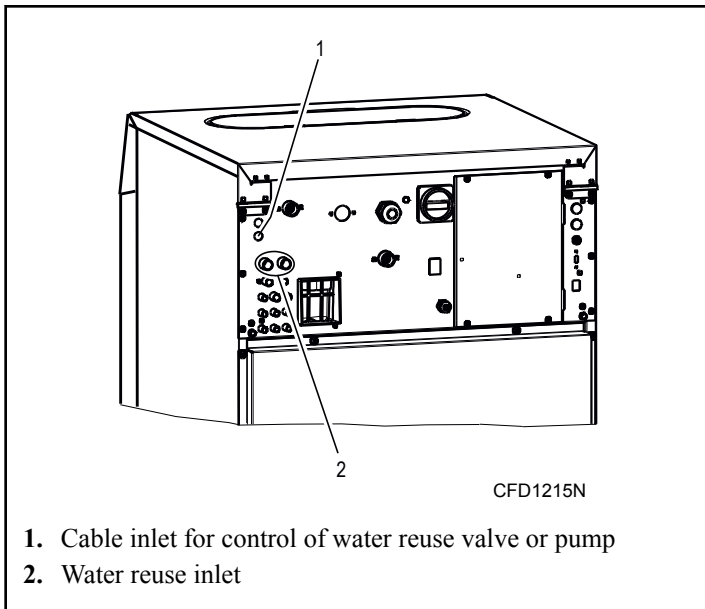

Figure 28
1. Drill out the protective screens of the water reuse inlet using a drill bit of 0.59 in. [15 mm] diameter. Refer to *Figure 28*.
3. Fit a cable bushing into the opening, and pull the cable through the bushing. Refer to *Figure 28*.